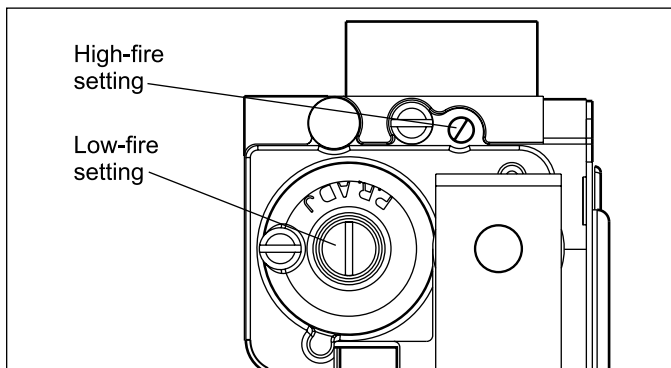

Figure 26. Adjustment Screws.
6. Remove lower cover to access gas valve and adjust as needed. Begin by adjusting the maximum input CO₂ then continue by adjusting the minimum input CO₂. Any high fire adjustment may affect low fire settings. Screws for adjustment are shown in Figure 26.